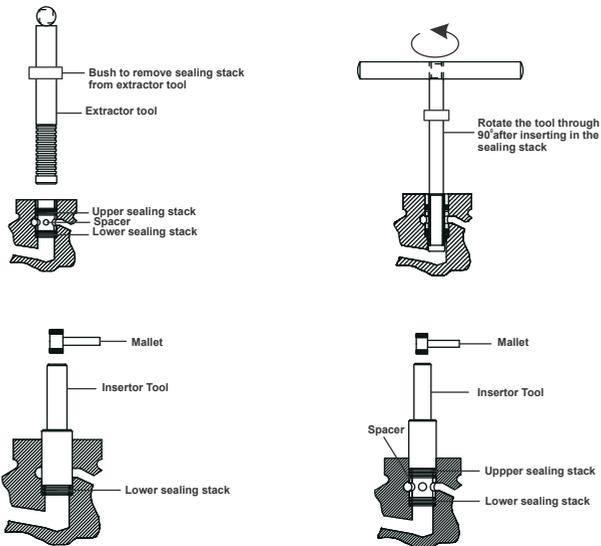

Figure 6 : View showing Extractor tool and Insertor tool
1. With the valve dismantled, insert the valve internal with extractor tool through the two sealing stack (5) and Spacer (6).
4. Fit new lower sealing stack (5), spacer (6) and new upper stack (5) using Inserter tool. Use mallet to apply light strokes on inserter tool ensuring they fit perfectly. (Refer Fig. 6)